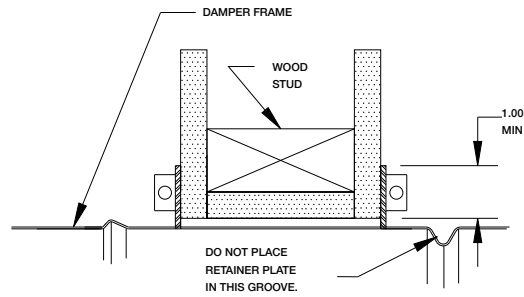

Figure 3: wood stud
- Prepare opening between studs and sleeve assembly as shown below (see Figure 3 & 4).